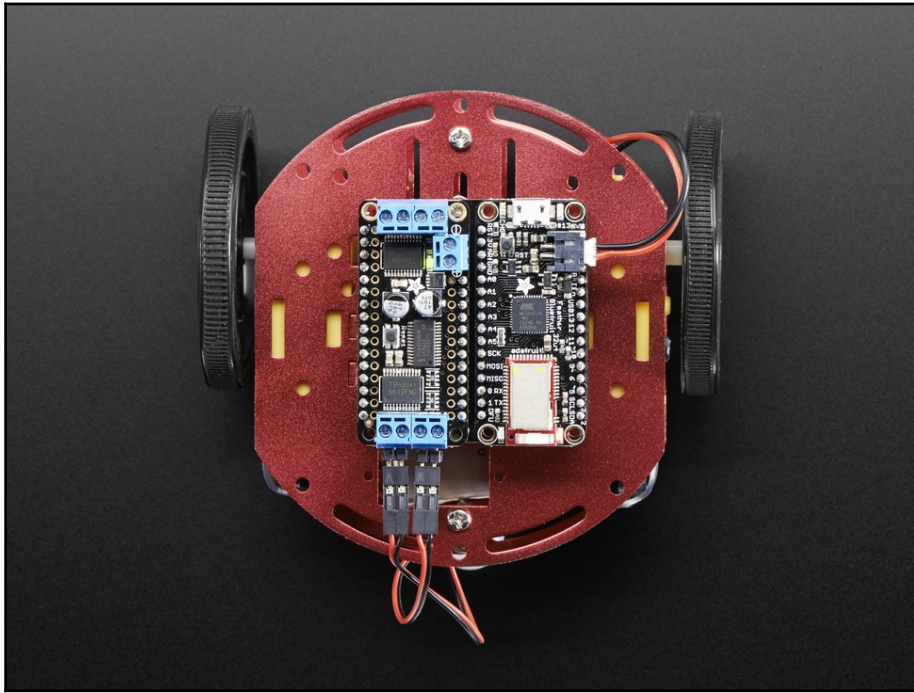

Figure 4.5: Stacking the Feather HUZZAH and Motor shield on top of the FeatherDoubler. Image courtesy of Adafruit Industries—<https://www.adafruit.com>
5. Stack the Feather HUZZAH and the DC Motor + Stepper FeatherWing on top of the FeatherDoubler (Figure 4.5):